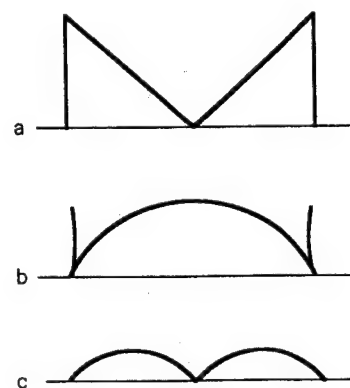

Fig. 3.
(2) V. SIN WAVEFORM...When a full wave rectification is performed with IC208 using the waveform of pin ⑩ of IC201, the waveform of pin ① of IC208 will be like that shown in Fig. 3-a. The parabola wave of pin ⑩ of IC201 is DC-shifted to make the output of pin ① of IC209 as shown in Fig. 3-b. Q205 to 212 comprise a multiplier and when Fig. 3-a and 3-b are entered into this multiplier, a waveform similar to the one shown in Fig. 3-c is produced. This will be divided by IC210 to make the first half of V-scan into V. SIN 1 and the latter half into V. SIN 2.
(3) H. SIN WAVEFORM...As with V. SIN waveform H. SAW will be full-wave rectified using IC217 while H. PARA will be DC-shifted with IC215. Each of these are multiply by Q213 to 220 to create waveforms similar to V. SIN.